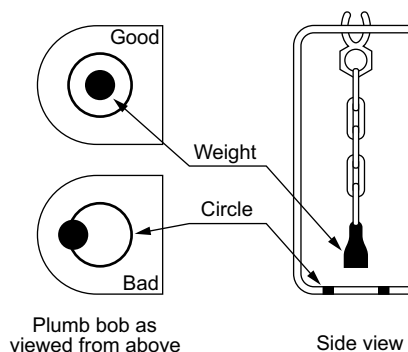
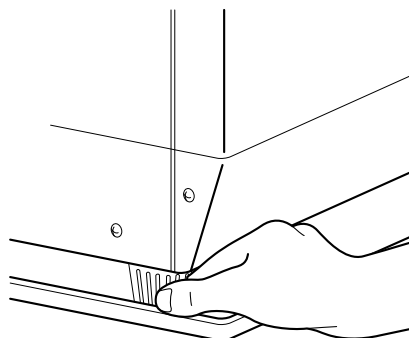

Fig. 13
Fig. 14
10. Level the heater with the 4 x adjustable feet, using the “plumb bob” located on the right side of the heater. When viewed from above the heater is level when, the plumb bob “weight” is within the circle. If not, adjust (by rotating) the heater “feet” until the plumb bob weight is within the circle (See Fig. 13 and Fig. 14).